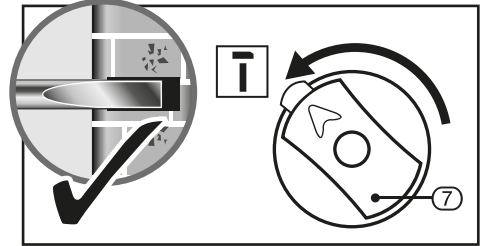

FIG.6
9.3 PNEUMATIC CHISELLING – FIG. 6
9.4 ROTATIONAL CHISEL SELECTION – FIG. 6
- To ensure the chisel is facing in the correct direction to the workpiece to be chiselled, rotate the selection dial to the ● position. Manually adjust the chisel to the desired angle, then rotate selection dial (7) back to hammer function.
9.5 TRIGGER SWITCH – FIG. 6